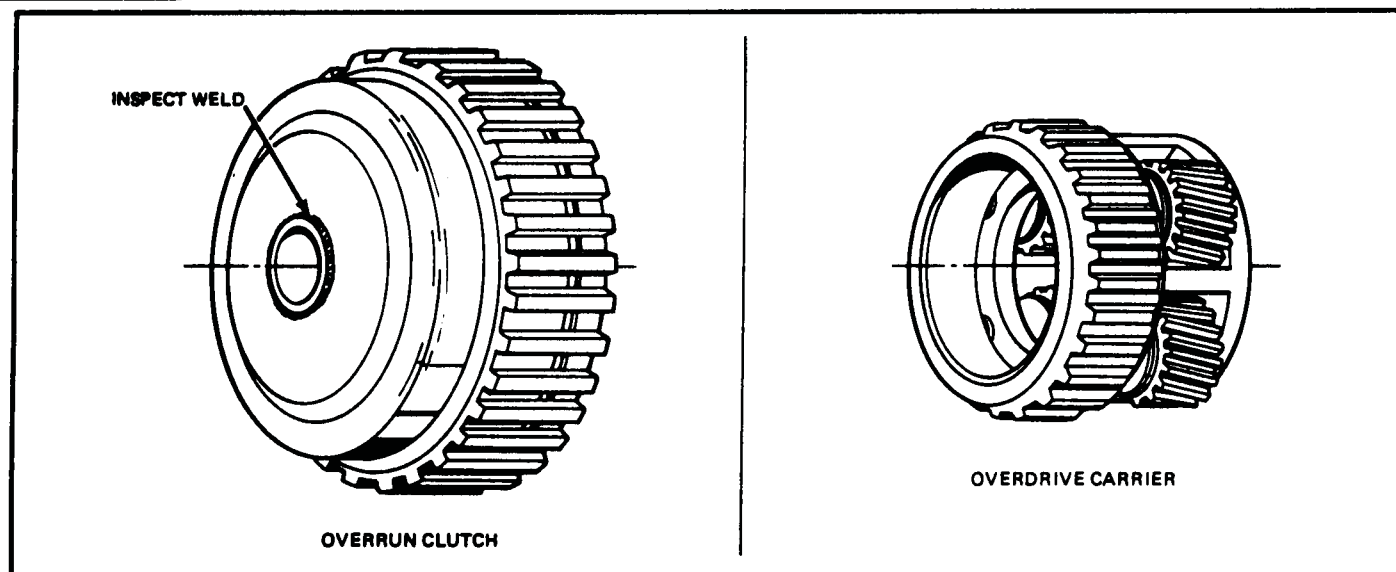

Figure 112
2. Inspect the overrun clutch housing for cracks around the weld, as shown in Figure 112.
In all instances where the hub weld is broken on the overrun clutch housing (Figure 112), both the overrun clutch housing and the O.D. carrier must be replaced (See Figure 112).